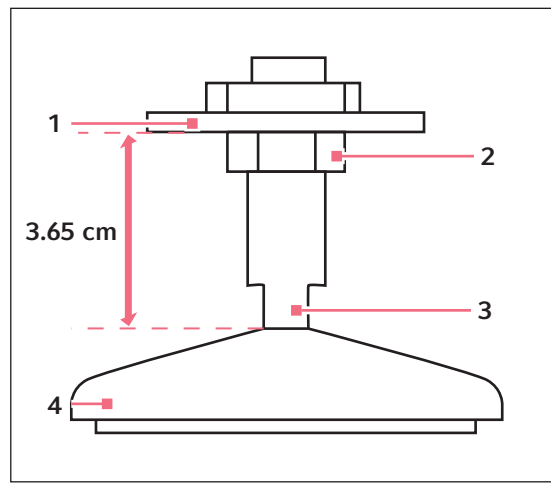

Fig. 6-2: Adjustable Foot (as shipped)
1. Immobilize the top locknut against the unit with one wrench whenever you adjust the foot, to keep the threaded stud from falling out (see Fig. 6-2 on p. 23).